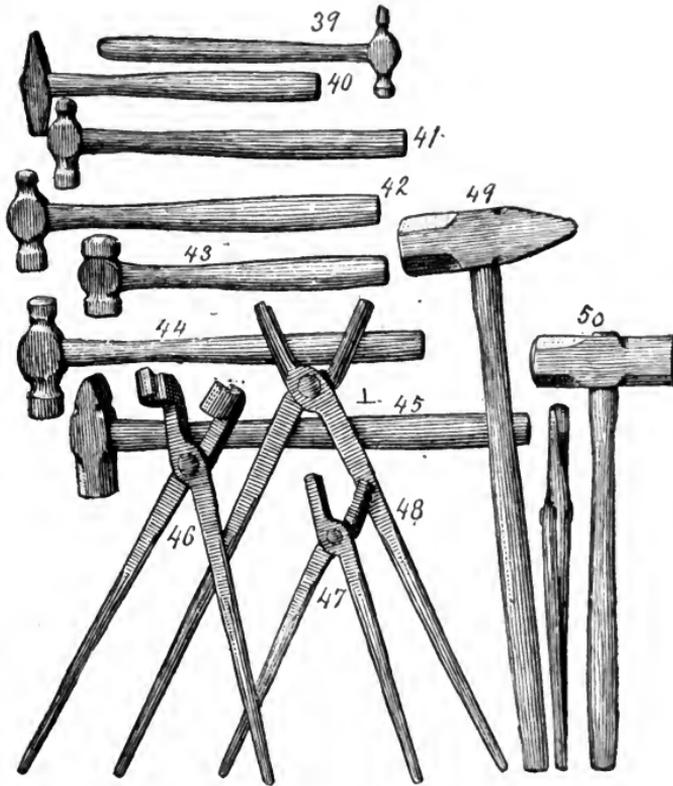

FIG. 179.
-No. 39, Fig. 179, is a small riveting hammer with a round pein or pane of about 3-8-inch diameter. I
No. 40, Fig. 179, is another riveting hammer. It is a cross pane which for some purposes is better than the round pane.
No. 41, Fig. 179, is a light hand hammer, commonly called a bench-hammer, with a globular pane.
No. 42, Fig. 179, is the ordinary hand hammer. It weighs 1 3/4 pounds.
No. 43, Fig. 179, is a horseshoe hammer, very
No. 44, Fig. 179, is a heavy hand hammer similar to Nos. 41 and 42. It weighs about 2 1-2 pounds.
No. 45, Fig. 179, is a large cross pane hammer made very plainly. It is useful in straightening heavy, irons, and also for the helper as a backing hammer on light fullers.
No. 49, Fig. 179, is an ordinary sledge hammer in which the eye is near the center.
No. 50, Fig. 179, is a horseshoe sledge, but it should be rather shorter and more compact than it appears in the illustration.
No. 48, Fig. 179, is a pair of hollow jaw tongs which are very useful for holding round iron. Every blacksmith should be provided with three or four pair ranging from 3-4 inch upward. I always fuller up the center of my ordinary tongs so that they will
No. 46, Fig. 179, is a pair of tongs for holding large round iron. They are very convenient for holding large bolts as the smith can let the